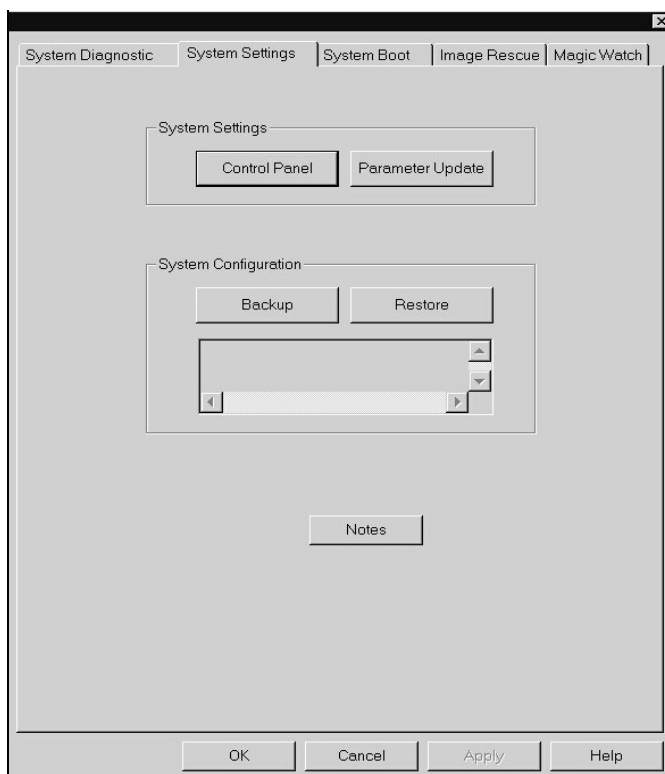

Fig. 2
- Select the task card "System Settings" (Fig. 2) and select the button "Control Panel".